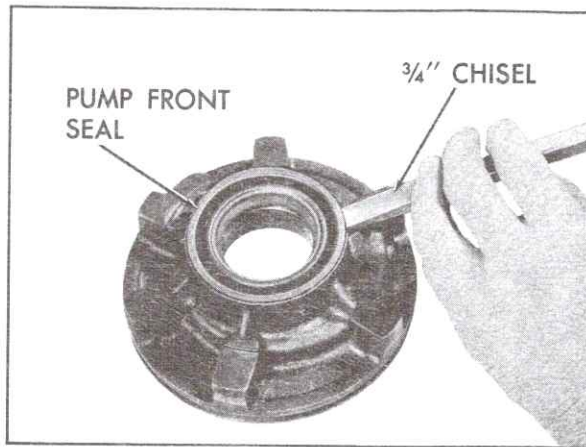

Fig. 7-192 Removing Pump Front Seal
- i. Inspect front seal for damage. If replacement of front seal is necessary, use a standard 3/4" cold chisel and pry front seal from pump body, Fig. 7-192.